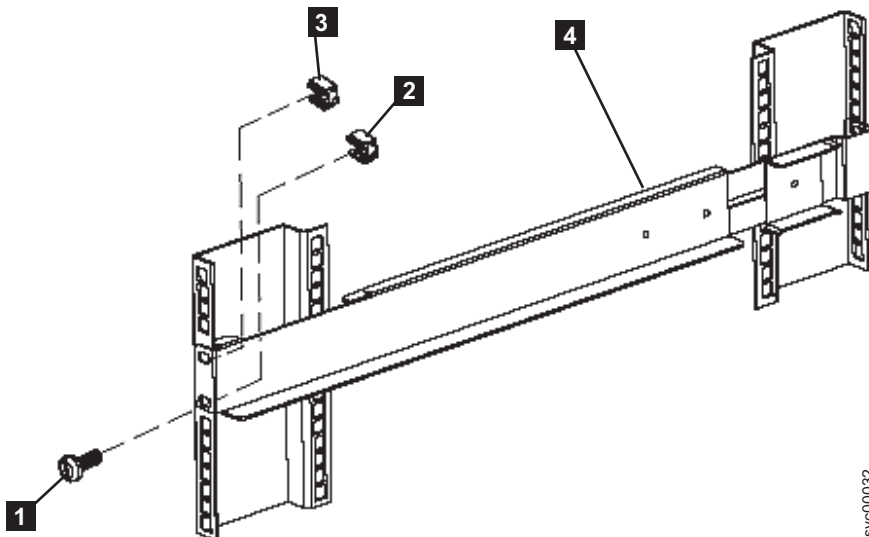

Figure 18. Securing the front rail on the 2145 UPS-1U
- Attach only the bottom hole of the rail to the front of the rack with one M6 × 10 screw and one clip nut (see **1** in Figure 18).